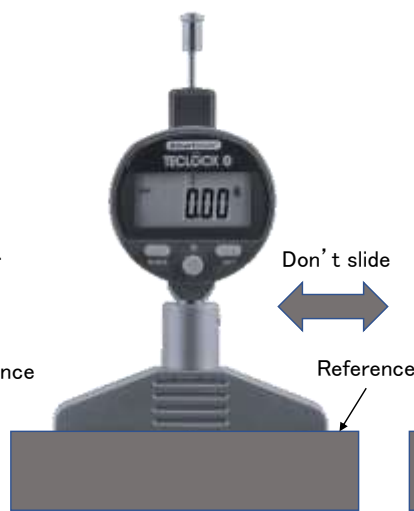

Figure.2: Sliding prohibited
- *) Don't slide this one right and left, back and forth, leaving the base contacting to the reference surface.(Figure.2)
(2) Depth measuring